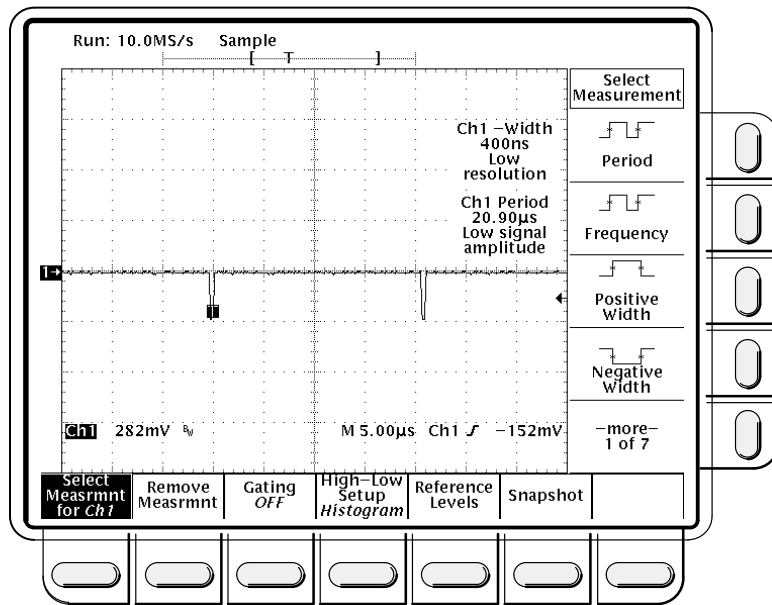

Figure 1-41: Sync Duty Cycle Test: Critically Adjusted Pulse
- Turn the pulse generator **PERIOD** variable control to adjust the period until the oscilloscope **CH1 Period** measurement reads **21.000μs -25/+50 ns** (See Figure 1-41). Read note shown below.